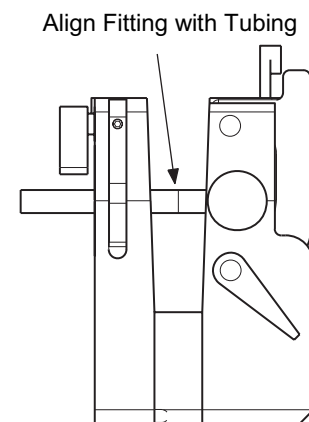

Figure 20 Aligning the Micro-Fit Fitting With the Tubing
8. Align the Micro-Fit fitting with the tubing. See Figure 20.